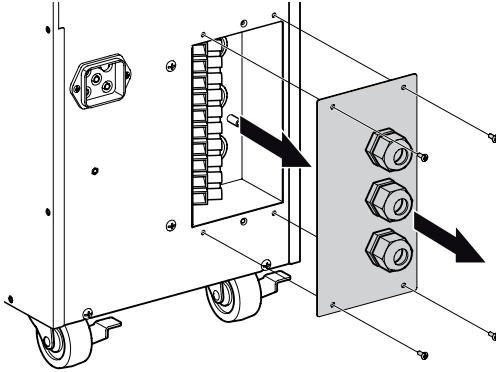

Abbildung 16. Access to terminal block.
1. **Access to terminal block: remove the 2 screws of the terminal block cover (see figure 16)**